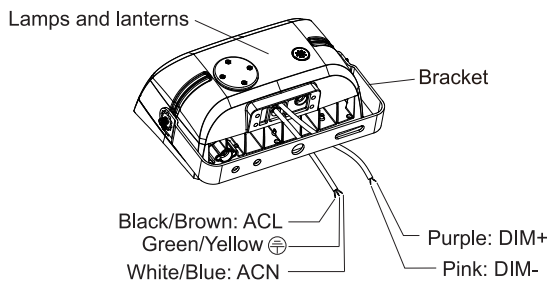

figure 3.3
Step 2: Finish the wire connection according to the right mode of connection (pay attention to positive wire, negative wire, and ground wire). (figure 3.3)